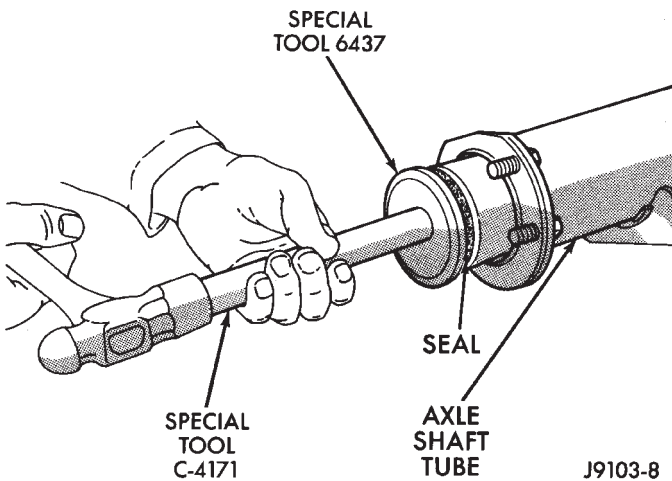

Fig. 14 Axle Shaft Seal Installation
(2) Install axle shaft bearing with Installer 6436 and Handle C-4171. Ensure part number on the bearing must go against the Installer.
(3) Install the new axle shaft seal (Fig. 14) with Installer 6437 and Handle C-4171.